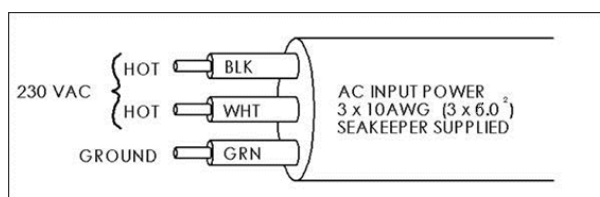

FIGURE 3 – CABLE 2 WIRE CONNECTIONS AT AC POWER DISTRIBUTION PANEL
- ii. For Seakeeper 35, connect 230 VAC wires in CABLE 2 to a **30 Amp**, double-pole Circuit Breaker at an AC power distribution panel according to Figure 3 above.
- iii. For Seakeeper 30HD, connect 230 VAC wires in CABLE 2 to a **20 Amp**, double-pole Circuit Breaker at an AC power distribution panel according to Figure 3 above.